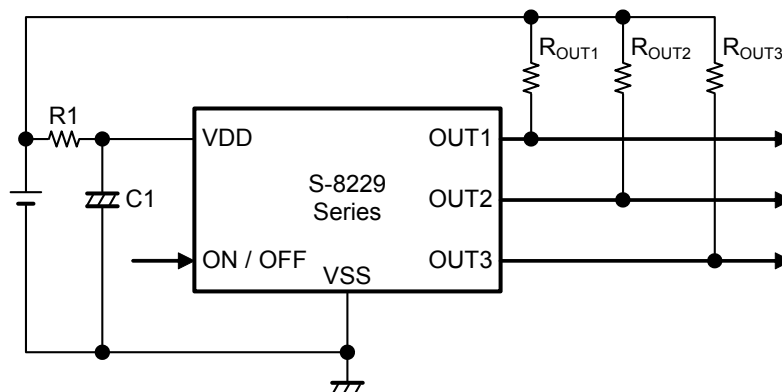

Figure 8
- In applications where a resistor is connected to the input (refer to **Figure 8** in "■ Standard Circuit"), the feed-through current which is generated when the output switches causes a voltage drop equal to feed-through current \times input resistance. In this state, the feed-through current stops and its resultant voltage drop disappears, and the output switches. The feed-through current is then generated again, a voltage drop appears. Note that an oscillation may be generated for this reason.